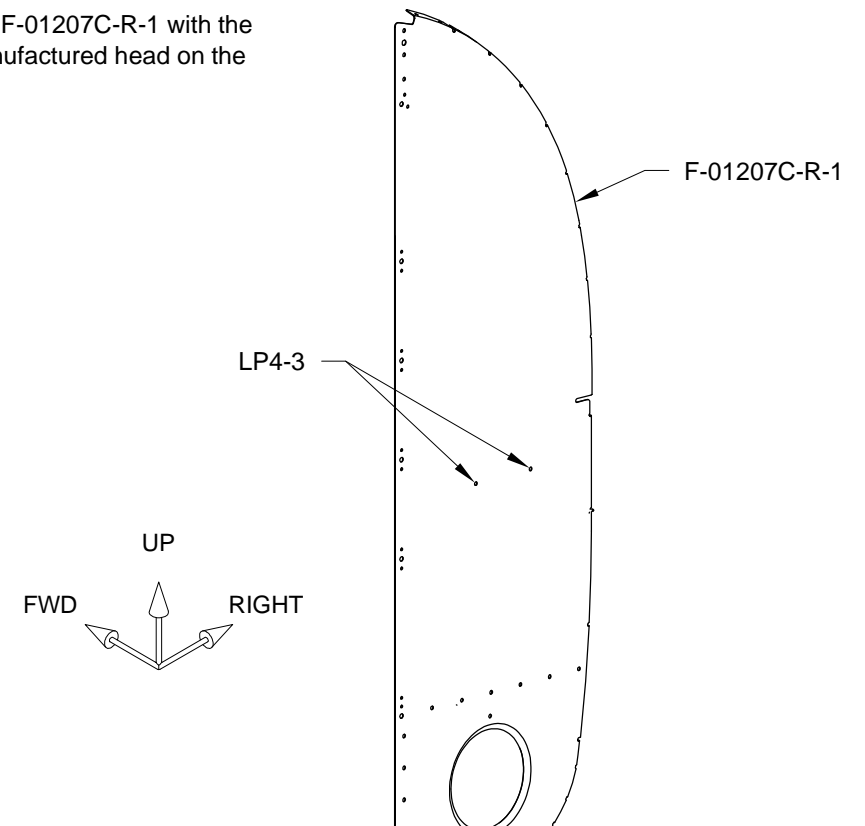

FIGURE 4: F-01207C-R-1 RIVETS
Step 13: Fill the two indicated holes in the F-01207C-R-1 with the rivets called out in Figure 4. Place the manufactured head on the forward side.